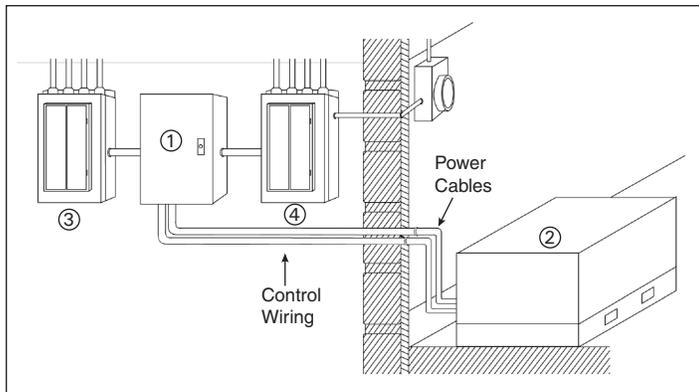

Figure 14. Typical Installation of a Residential ATS
In a typical installation for critical loads (see Figure 14), the ATS (1) and the generator (2) are connected to the power supply. The ATS (1) and emergency distribution panel (3) receive utility power from a dedicated breaker in the utility service panel (4). The ATS and emergency panel receive generator power from the generator (2). Power from the utility panel feeds the utility panel.